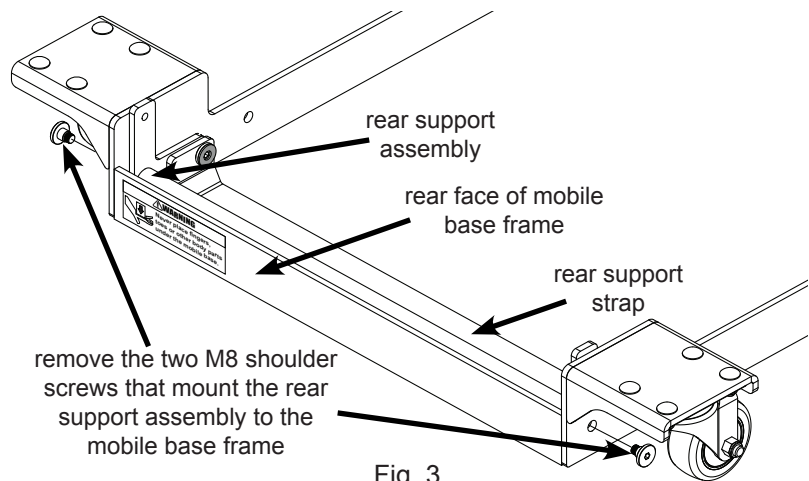

Fig. 3
3. You must now move the rear support strap forward to accommodate the smaller cabinet of the Professional Cabinet Saw. Begin by removing the two M8 shoulder screws that mount the rear support assembly to the mobile base frame with a 5 mm hex key, as shown in Fig. 3. The rear support assembly will be used in the following step, but you may discard the two M8 shoulder screws.